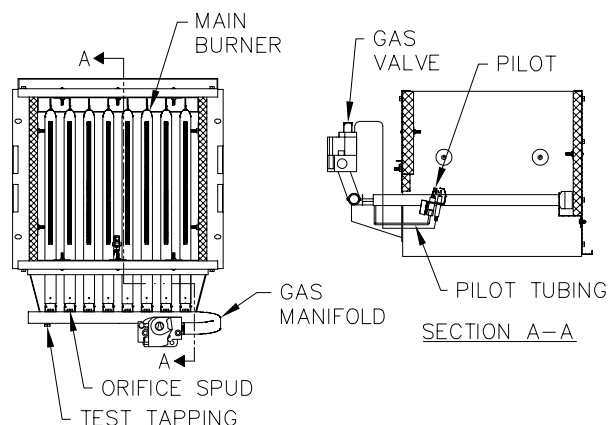

Figure 8.1: Gas, Valve, Manifold and Burner Assembly
9. Connect a manometer to 1/8 NPT tapping provided on the manifold. See Figure 8.1.
14. The gas manifold and control assembly provided with this boiler meet with all criteria regarding safe lighting and performance as specified in ANSI Z21.13 (CSA 4.9), *Gas-Fired Low-Pressure Steam and Hot Water Boilers*. The gas manifold and control assembly are made of gas-tight, completely factory assembled and installed components of the base assembly. See Figure 8.1.